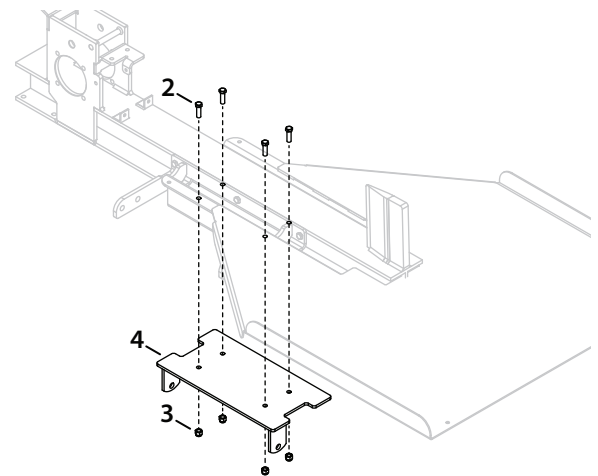

FIGURE 2
1. On the Log Splitter, remove the back two bolts that attach the table to I-Beam. You will use these holes to attach the Lower Mount as shown in Figure 2.
3. Assemble the Mount (2) to the side of the I-Beam using three 3/8 x 1-1/4" hex bolts (17) and 3/8" nylock nuts (18).
### Attaching Lower Mount (Figure 2)